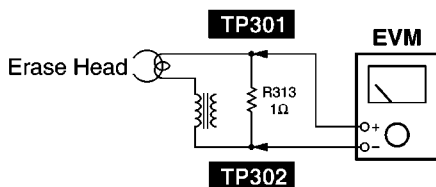

Fig. 13-5.
1. Connect the measuring instrument as shown in Fig. 13-5.